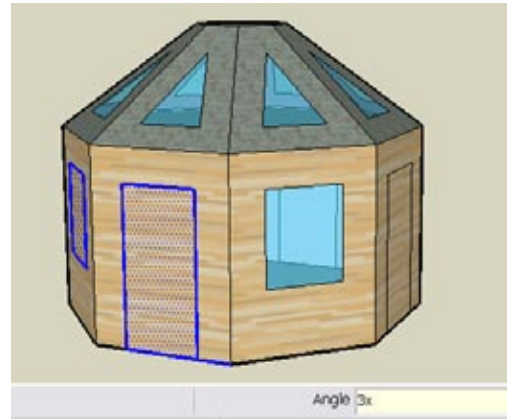

Figure 1-54
16. Enter  $3x$ , and every face should have either a window or a door (Figure 1-54).